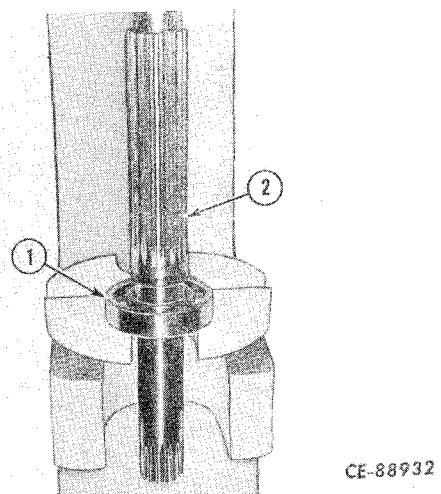

Figure 4-61
If the bearing (1, Fig. 4-61) was removed from the countershaft (2) press a new bearing into the shaft. Install the bearing retaining rings in the grooves in the shaft.